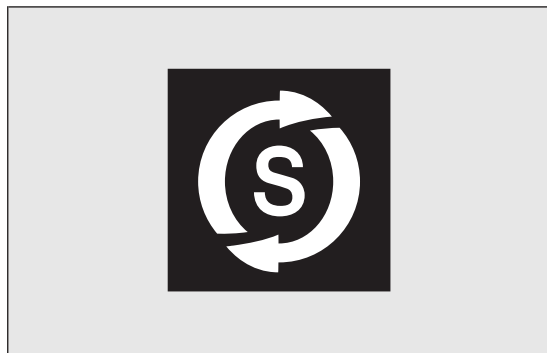

fig. 95
The engine being stopped is signalled by the icon fig. 95 on the display, depending on the trim level.
In the above cases the warning light fig. 95 flashes and, where provided, an information message is displayed.
- ☐ automatic climate control system for adjusting the thermal comfort level or to enable MAX-DEF function. With a gear engaged, the engine can only be automatically restarted by fully depressing the clutch pedal. The driver is asked to perform this operation through the warning light fig. 95 flashing in the instrument panel and, where provided, the message in the display.
In engine cut-out conditions through the Start&Stop system, if the driver unfastens his/her seat belt and opens the driver or the passenger door, the engine can only be restarted using the key. The driver is notified of this condition both by a buzzer and the flashing of the fig. 95 warning light on the instrument panel and, where provided, an information message on the display.